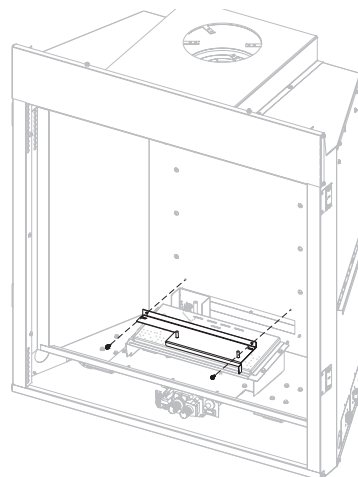

Figure 11
8. Remove log support by unscrewing two screws securing the metal plate to the log support. Retain log support and screws for reassembly. **See Figure 11.**
19. Reinstall the log support and secure it with metal plate and two screws removed in step 8. **See Figure 11.**